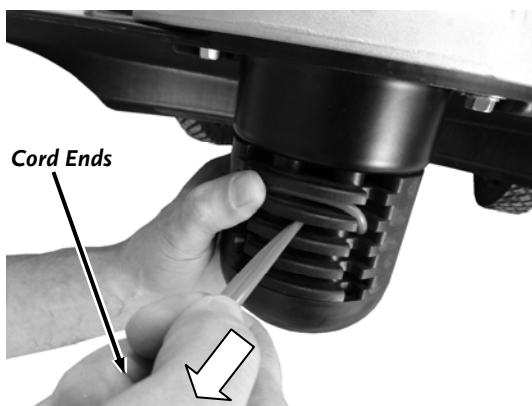

Figure 12
3. Pull the ends of the Cord under the loop and push the loop up into the Line Plate groove above them (**Figure 12**) and then pull the ends tight.